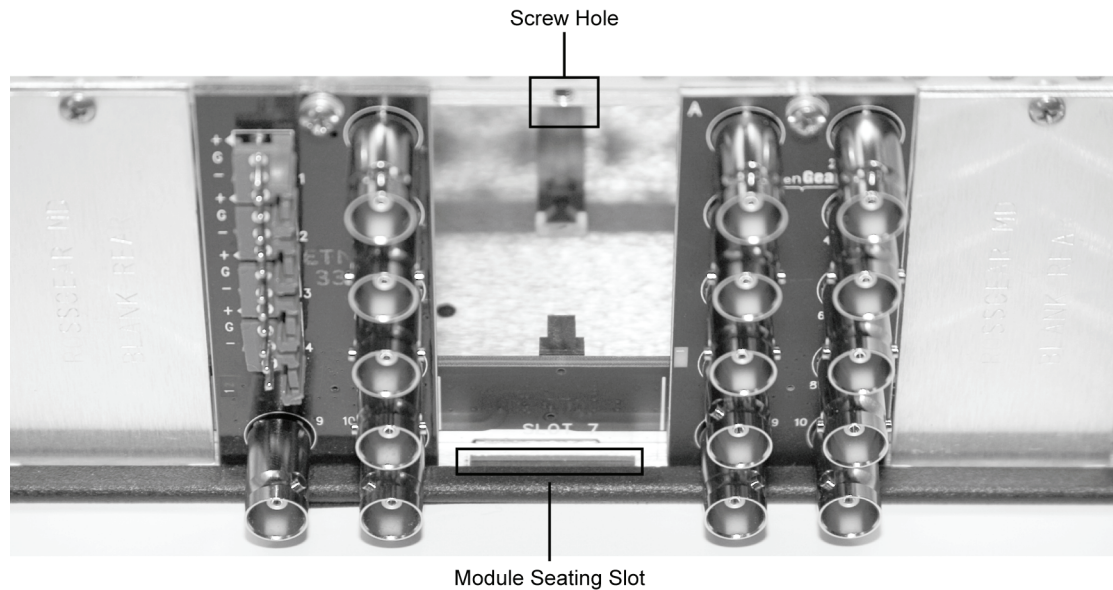

Figure 3. Rear Module Installation — DFR-8310 Series Frame (ADC-8432 not shown)
4. As shown in **Figure 3**, seat the bottom of the rear module in the seating slot at the base of the back plane of the frame.